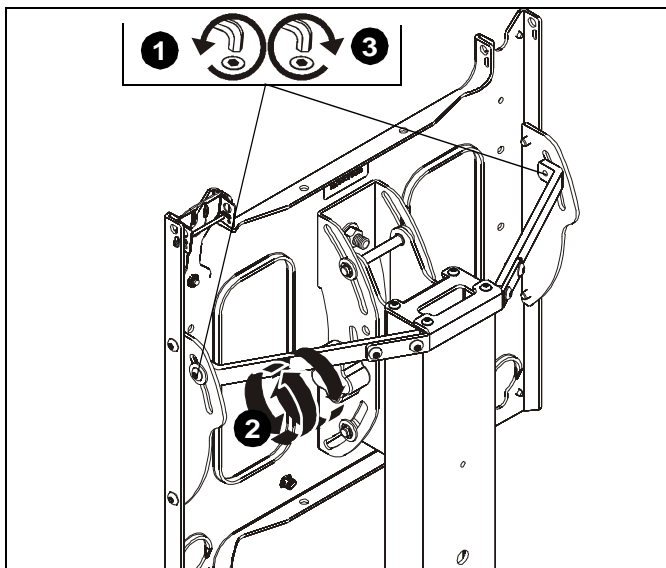

Figure 5
1. Loosen two 1/4-20 x 1/2" button head cap screws (D) locking pitch position of the mount. (See Figure 5)
2. Use pitch adjustment knob to adjust pitch to desired level. (See Figure 5)
3. Tighten two 1/4-20 x 1/2" button head cap screws (D) to lock pitch position back into place. (See Figure 5)